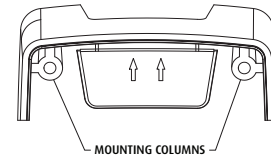

Fig. 2
3. If a surface spacer is included, ensure the isolated (inner) mounting columns are at the top (Fig. 2).
Note: The spacer is not reversible; arrows are marked upwards on the removable plastic windows for your convenience (Fig. 2).